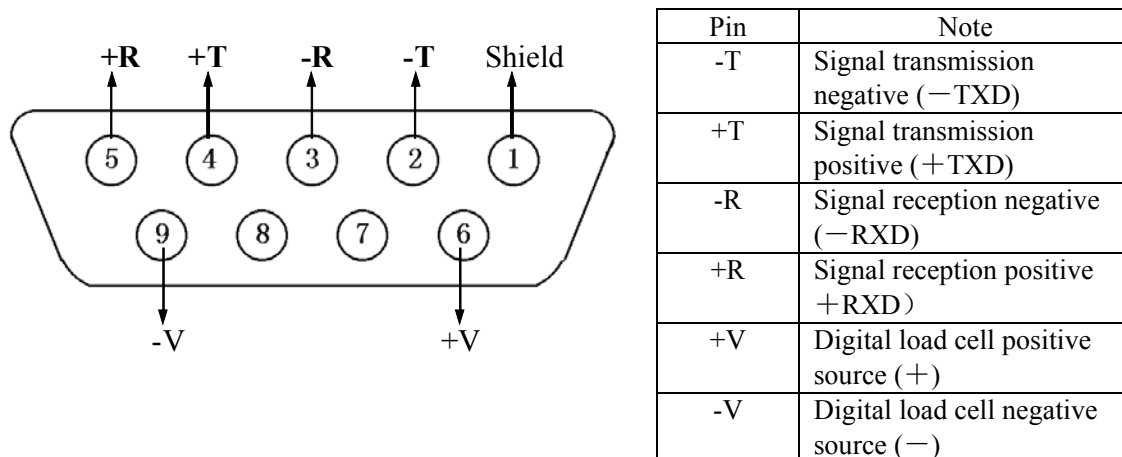

Figure 2-1-1 Digital load cell interface and description
1. The load cell is equipped with 9 core connector assembly for connection. Meanings of all pins are marked in Figure 2-1-1.